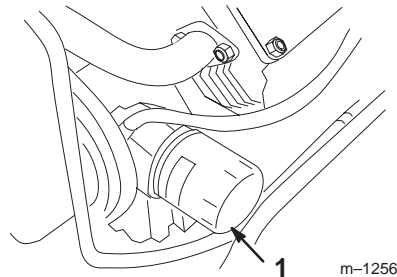

Figure 33
3. Remove the old filter (Fig. 33) and wipe the surface of the filter adapter gasket.